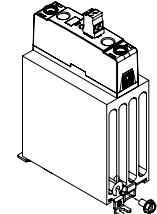

fig. 3 DR45 model with protective earth screw
- Protective earth (PE) screw type recommended is 10-32 UNC standard, not provided with SSR. Through the use of a DIN rail ground (protective conductor) terminal block, the DIN rail itself can be used as the grounding bus bar. In this case, the zinc plated steel material used for the DIN rail clip of DR45 models, permits a secure path to ground and avoid the need of a further PE connection (see **fig.3**).